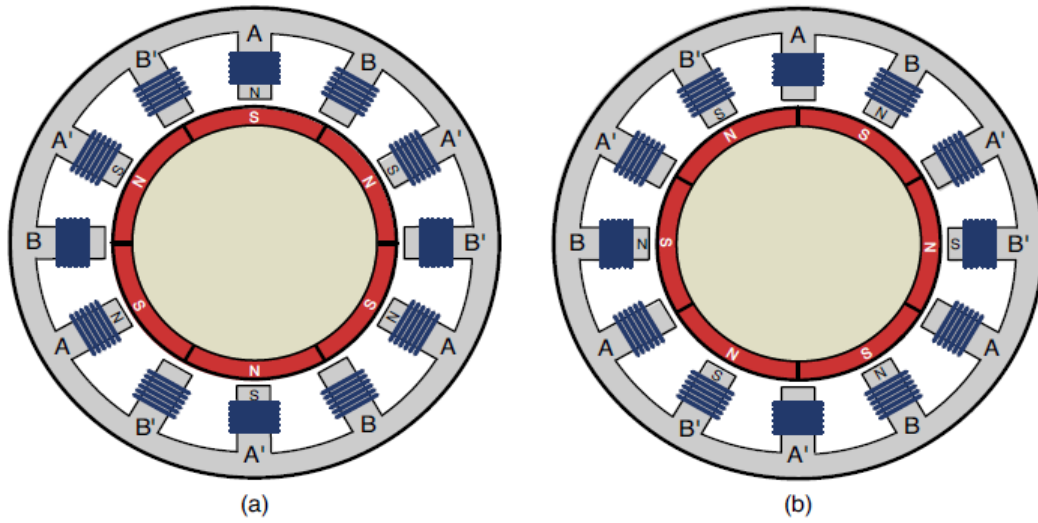

Fig.3.14 Stepper rotation in full step mode
- Each control signal energizes one winding. The simplest way to control a stepper is to energize (fig.3.14) one winding at a time.